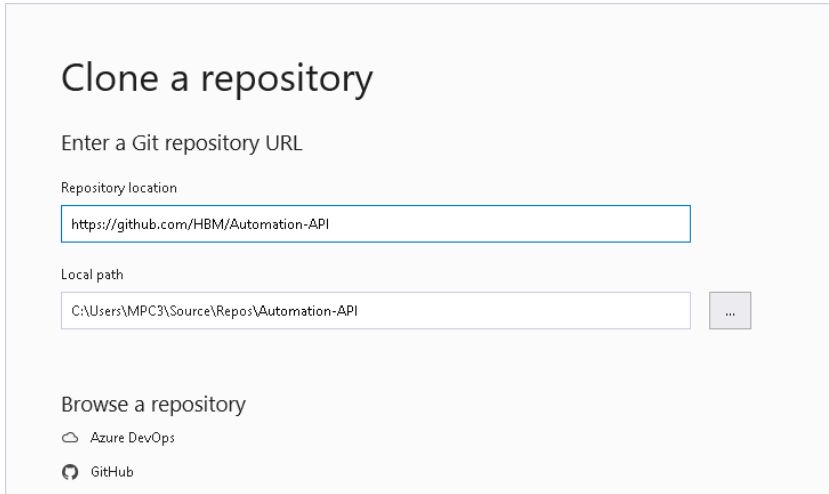

Fig. 4.2 Specifying the repository for the sample applications
- ▶ Set **<https://github.com/HBM/Automation-API>** as the repository location – see Fig. 4.2.
- ▶ Also specify the local path where you want to store the project ("Source\Repos\Automation-API" folder in Fig. 4.2).